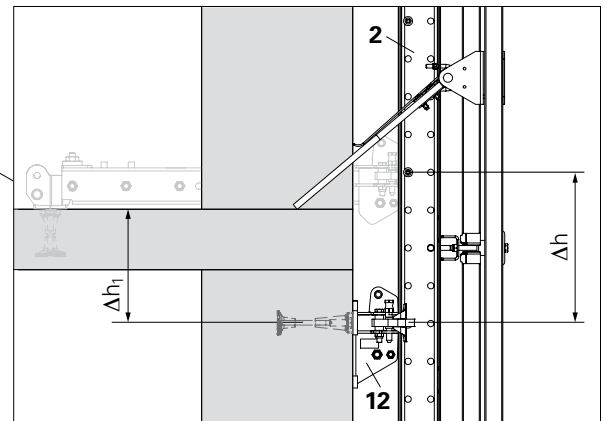

Fig. B4.02a
Slab Shoes and Rail Guidance Shoes must be in the same vertical system grid. For this, the suspension of the Rail Guidance Shoe (12) is height-adjusted by Δh in 125 mm increments to the top edge of the slab. (Fig. B4.02a)